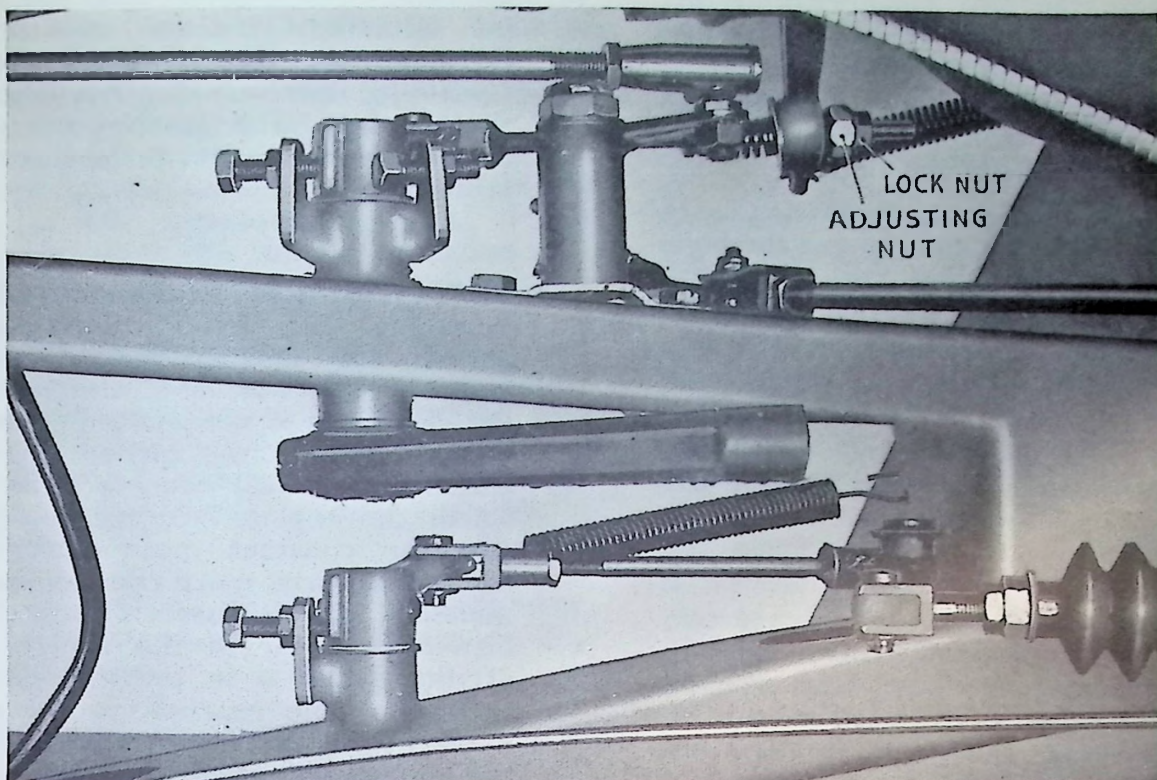

Fig. 4. Adjustment of Clutch Pedal. For description see page C6. The set screws with lock nuts are those which limit the travel of the Pedals.
- (1) The position of the clutch pedal in relation to the steering wheel is set before the car leaves the works. To be in accordance with the standard setting the face of the eye in the pedal shank and into which the foot pad fits, should be $23\frac{1}{2}$ " (596.8 mm.) away from the rim of the steering wheel.
- (2) The total travel of the pedal, measured between the face of the foot pad and the floorboards is also set when the car leaves the works, and should require no further attention. The required travel is $4\frac{1}{2}$ " (114.3 mm.) and is limited by the adjuster screw in the forward lug formed in the clutch pedal support bracket. Any correction necessary is carried out in the normal way of releasing the locknut, altering the position of the adjuster screw until the correct travel is present, and then retightening the locknut. See Fig. 4, page C9.
- (3) The free movement, that is the amount the pedal can be depressed before the pressure of the clutch thrust springs is felt, should be $\frac{3}{4}$ " (19 mm.) and is measured between the face of the foot pad and the toe board. The adjustment to maintain it is the only one which should be necessary during the life of the clutch liners, for the free movement tends to decrease as wear occurs to the liners. To restore the standard amount proceed as follows:—
Release the locknut on the end of the link connecting the pedal to the clutch operating forked lever, and unscrew the ball joint nut until the required free movement is obtained. Re-tighten the locknut. To reduce excessive free movement, screw up the ball joint nut in the required amount. See Fig. 4, page C9. Detach pedal pulloff spring whilst adjusting, this will enable the free play to be easily felt.